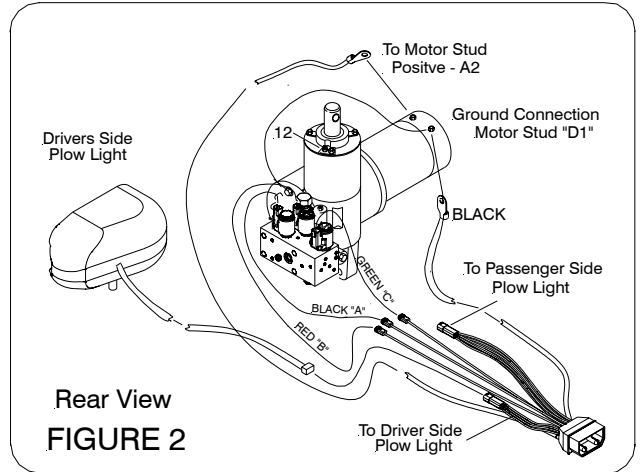

Figure 2
- Remove shipping plug from filler hole and install Relief Valve Kit (12). Tighten to 100-125 in. lbs.
- Install the Female socket (7) of the Harness Plug assembly. Attach power cables to the Hydraulic Lift Unit. Attach the red (+) cable to the motor stud marked (A2). Attach the black (-) cable to the motor stud marked (D1). Connect the red, black and green wires from female socket (7) and connect to solenoids on the Power Angling Block. See Figure 2.
Connect both male ends from the snow plow light to the female ends on the Female Socket (7). As per Figure 2.